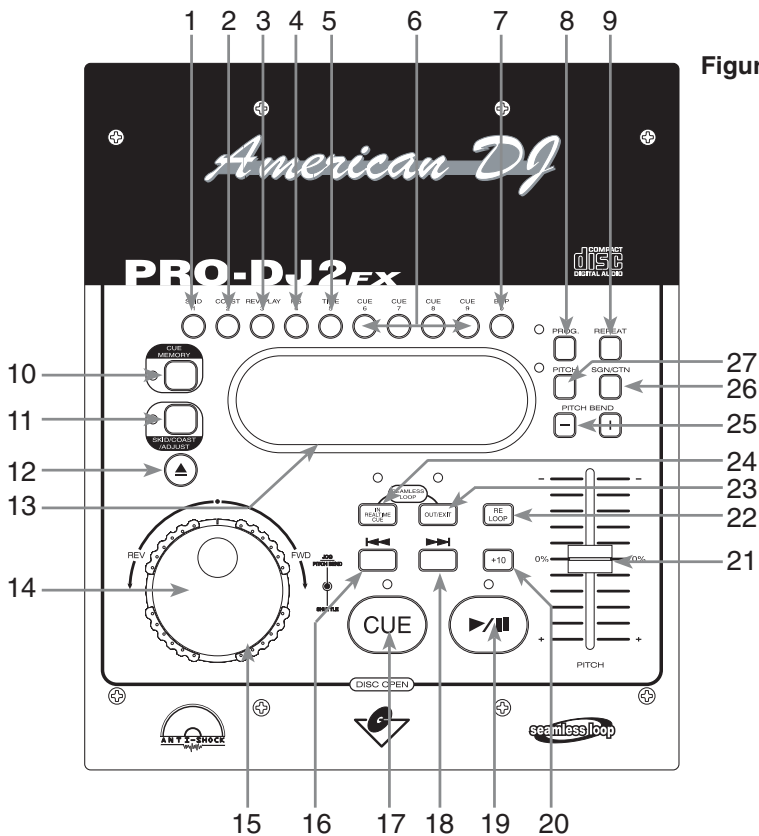

Figure 3
A. TOP UNIT CONTROLS (FIGURE 3)
1. SKID - This button activates the SKID effect. This effect simulates the sudden platter stop of a turntable. Almost like pressing the stop button on a turntable. When the SKID effect is selected a number 1 will appear in the LCD (13), this indicates the SKID effect is active. See "Skid" effect on page 24.
2. COAST - This button activates the COAST effect. This effect will simulates turning the power off on a turntable, a turntable platter spinning until it slowly loses momentum and stops. When the COAST effect is selected a number 2 will appear in the LCD (13), this will indicates the